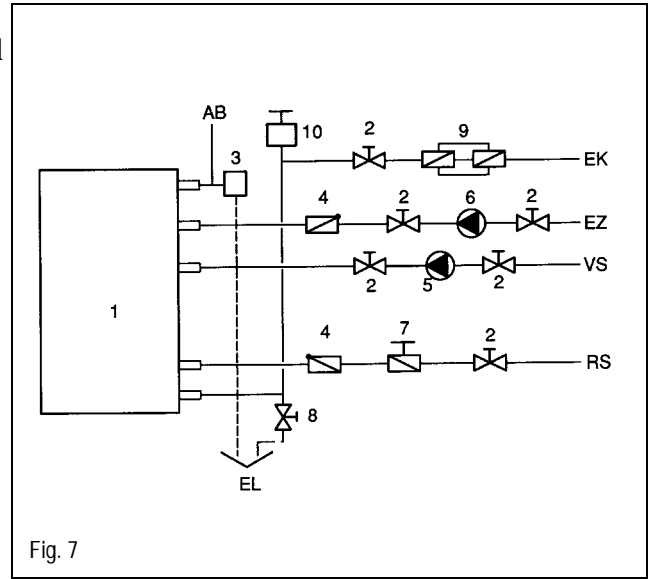

Fig. 7
- Install an approved and properly sized pressure and temperature relief valve (Fig. 7).